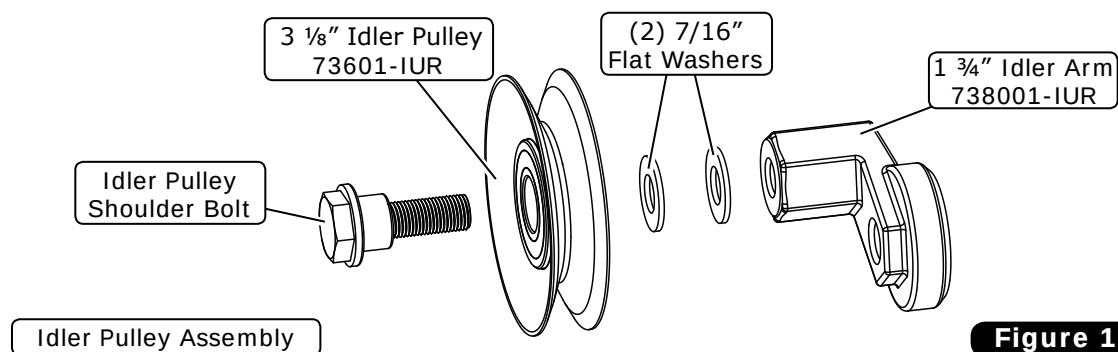

Figure 1
1. Assemble the idler pulley onto the idler arm using the idler pulley shoulder bolt, 3 1/8" idler pulley, (2) 7/16" flat washers and the 1 3/4" idler arm (See Figure 1, below).
1. Place the compressor onto the bracket with tabs "B," "C," "F" and "G" aligning to the front of the bracket as shown in Photos 1 and 2, below. Secure the compressor using (4) 3/8-16 x 1 1/2" hex bolts and (4) 3/8-16 locknuts through all (4) lower compressor tabs. **NOTE: Vintage Air recommends using only Dayco, Gates or Goodyear brand reinforced V-belts with this compressor bracket kit. A compressor belt length of 54 7/8" was used. However, belt lengths may vary depending on the accessories present and the diameter of the water pump, crankshaft, alternator and power steering pulleys.**
2. Tension the idler arm using a 1" wrench, and tighten the rear bolt with a 3/4" wrench (See Figure 1 and Photo 3, below).